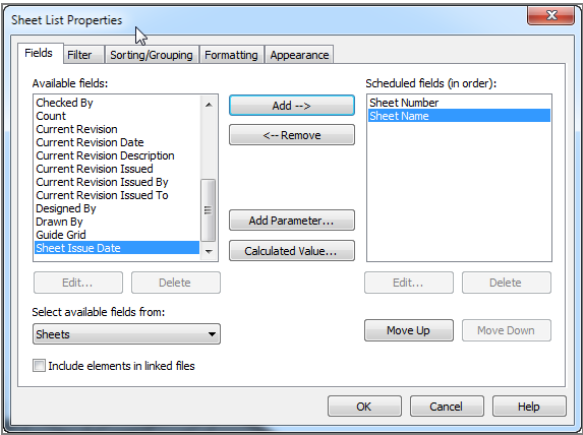

FIGURE 14.22: Adding Sheet Number and Sheet Name (in that order)
2. In the Sheet List Properties dialog box, add Sheet Number and Sheet Name, as shown in Figure 14.22.